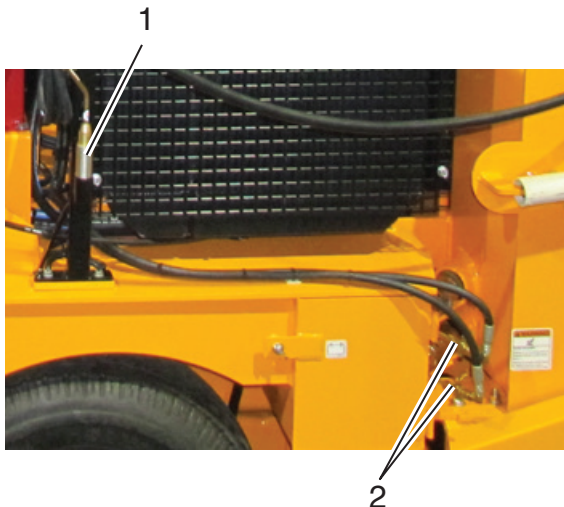

Figure 4-9. Propane Burners
3. Remove the lighter from its holder. See **Figure 4-9**.